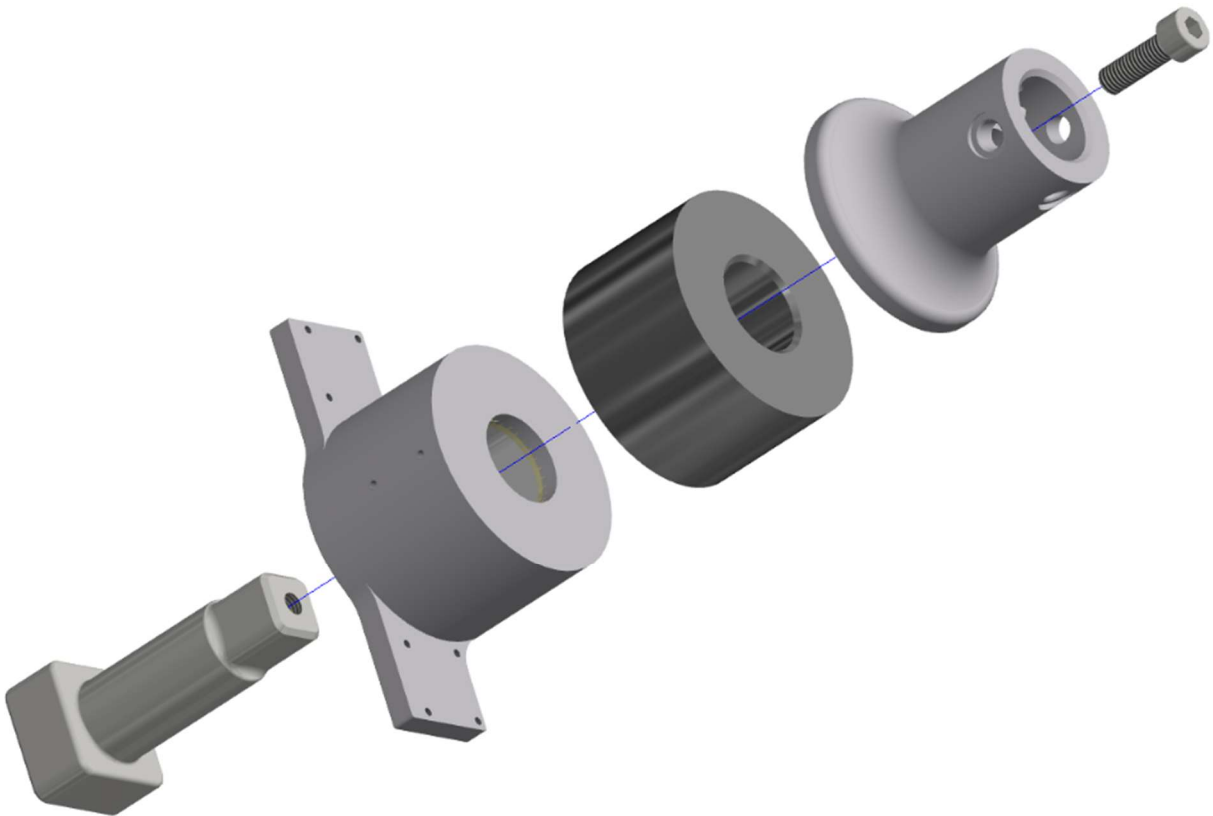

Figure 9-31. Femur Bushing Assembly (474-5164) and Femur Plunger (474-5166)
- 9.3.1 Slide the Femur Plunger Assembly (474-5166) into the Femur Bushing Assembly (474-5164) (Figure 9-31). Completely seat the femur plunger assembly into the femur bushing assembly. Slide the Femur Rubber (474-5172) over the shaft of the Femur Plunger Assembly (Figure 9-31). Place the Femur End Cap (474-5173-1,2) onto the femur rubber; attach the end cap by inserting one M8 X 1.25 X 25 SHCS into the center of the femur end cap (Figure 9-31).